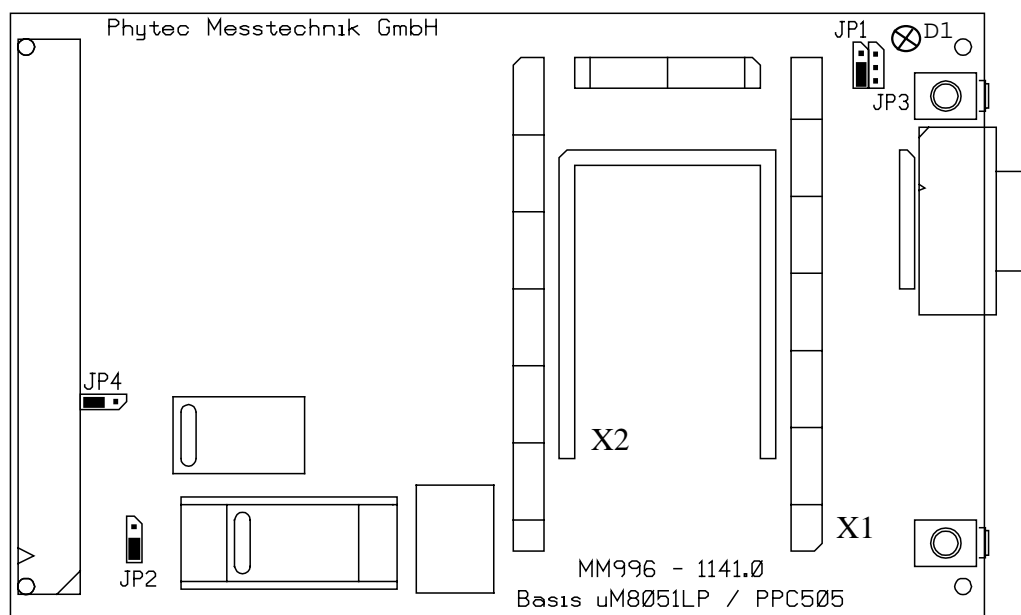

Figure 2: Development Board Low Power Overview
- Configure the Jumpers (JP1-JP4) on the Development Board as indicated in *Figure 2*. This correctly routes the RS-232 signals to the DB-9 connector (P1) on the Development Board, as well as VCC and GND signals to the power plug (P3).